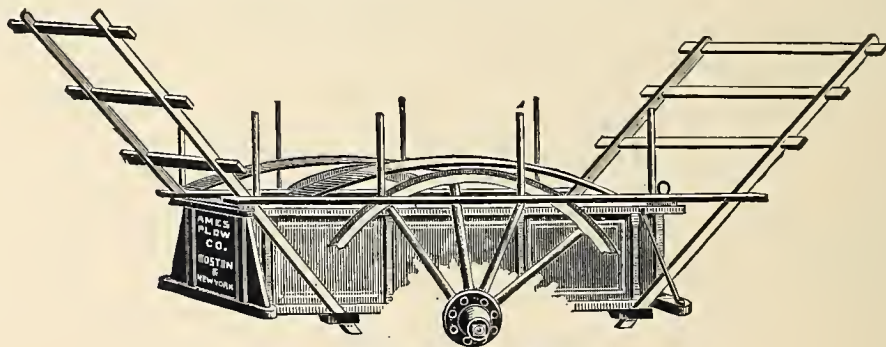

Fig. B 563.—Hay Rigging.
**The Hay Rigging.**—*Fig. B 563* represents the HAY RIGGING which we have perfected for use on our FARM-CARTS. It is a very convenient rig; is light and readily attached. The outriggers in which the pins are placed are outside the wheels, and the hay is kept off the wheels by the curved slats. A similar attachment is made for use on our FARM-WAGONS.